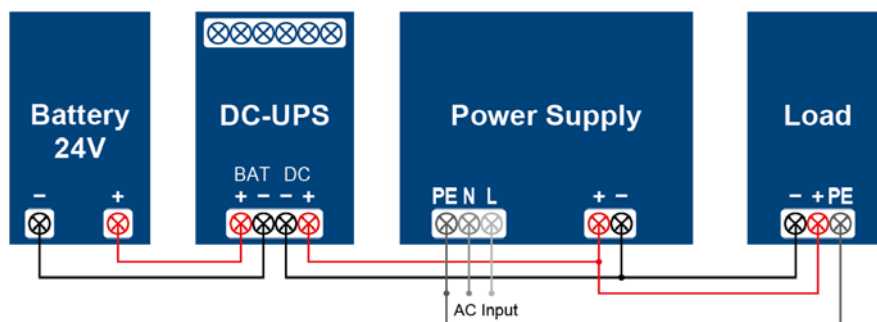

Figure 5. Single PSU applications with DRU-24V40ABN
1. For single PSU application, see Figure 5. below.